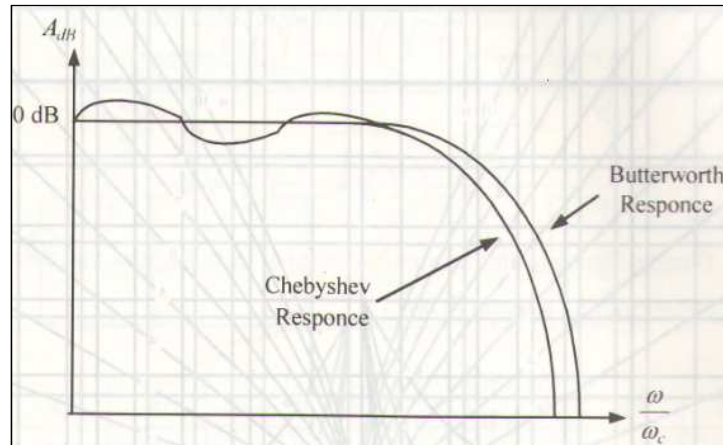

Fig: 9
(2) Chebyshev Filter: This type of filter is also known as equal ripple filter since the ripples are equally distributed within the pass band. The attenuation of transition band is sharper than the Butterworth filter. Fig. 9 shows the comparison between Butterworth and Chebyshev filters.